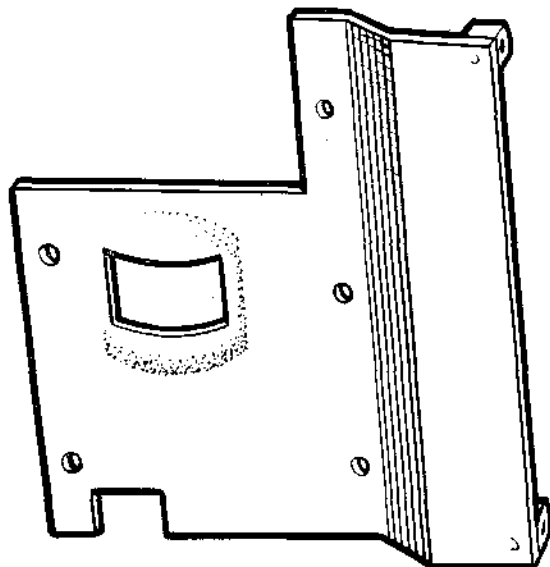

Fig. 5. Test side cover
6. A test side cover (fig. 5) is also available: this fits to the amplifying unit (R.F.) Type 11681, in the place of the normal left-hand side cover and allows access to the tuning components when making adjustments to the r.f. trimming.